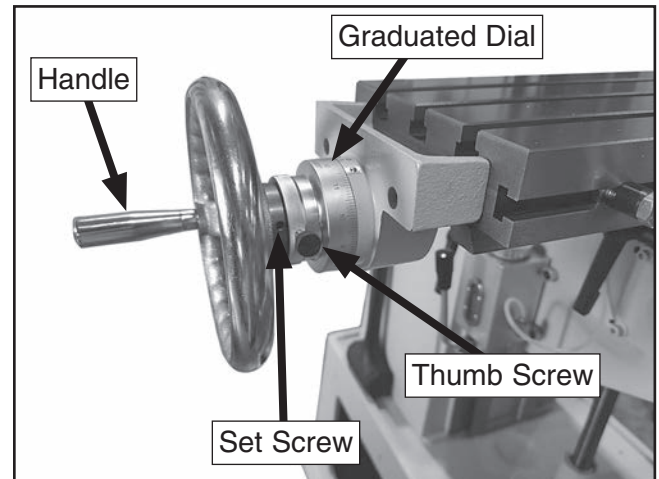

Figure 15. Left X-axis table handwheel installed.
1. Install a thumb screw on each graduated dial, slide a dial onto X-axis and cross feed lead-screws, then install the handwheels using 5 x 5 x 20 keys and the pre-installed set screws. Secure as shown in **Figures 15–16**.
2. Thread (3) handwheel handles into handwheels (see **Figures 15–17**).